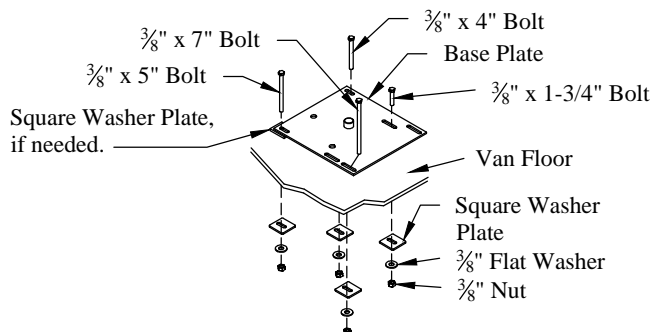

Figure 4: Base plate hardware.
- 9. Bolt** the base plate to the vehicle floor using the hardware provided (Figure 4). (See Note A) To avoid crushing the frame, do not over-tighten bolts.